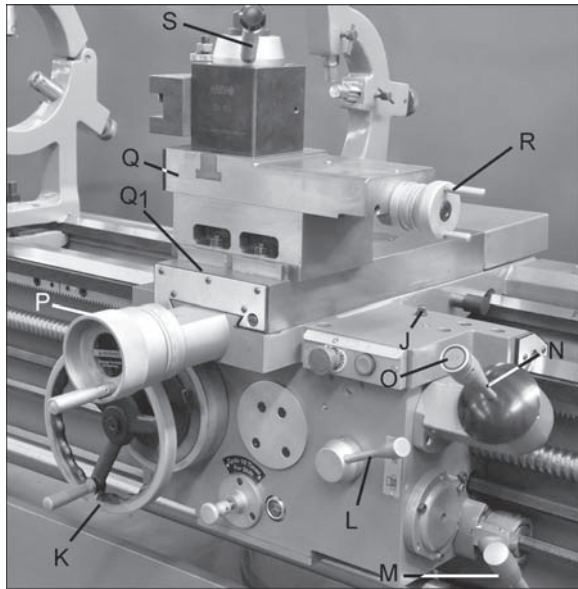

Figure 24 – Carriage controls and settings
5. **Carriage Lock** (J, Figure 24): Located on top right of carriage. Turn clockwise to lock, counterclockwise to unlock.
6. **Carriage Handwheel** (K, Figure 24): Located on the apron. Rotate handwheel clockwise to move carriage assembly toward tailstock (right). Rotate the wheel counterclockwise to move carriage assembly toward headstock (left). A scale is mounted to the ring, graduated in 0.05 inch increments, and can be calibrated by loosening the thumb screw lock and rotating the ring as needed. Always re-tighten ring before using the feed.
7. **Half Nut Lever** (L, Figure 24): Located on front of apron assembly. Engages the leadscrew for threading operations.
9. **Spindle Direction Control Lever** (M, Figure 24). Move lever to the right so that its tab clears the notch, then down for forward spindle rotation, or up for reverse spindle rotation. Allow spindle to come to a stop before changing directions.
10. **Feed Direction Lever** (N, Figure 24): Left and right moves the carriage in the corresponding directions (longitudinal feed); up and down moves the cross slide (cross feed).
11. **Rapid Traverse Button** (O, Figure 24). Push for rapid movement in the direction set by the feed direction lever. Rapid longitudinal movement disengages the carriage handwheel. **However, the cross slide handwheel should be disengaged (pull it out) before using rapid feed.**
12. **Cross Slide Handwheel** (P, Figure 24): Located above apron assembly. Clockwise rotation moves cross slide toward rear of machine. The accompanying scale is graduated in 0.002 inch increments. Before using rapid feed, disengage this handle by pulling it outward.
13. **Compound Rest** (Q, Figure 24): Located on top of the cross slide and can be rotated 360° by loosening four nuts (two in front, two in back). There are calibrations in degrees (Q1, Figure 24) to assist in placement of the compound rest to the desired angle.
14. **Compound Rest Handle** (R, Figure 24): Rotate clockwise or counterclockwise to position. The accompanying scale on the collar is graduated in 0.001 inch increments.
15. **Tool Post Clamping Lever** (S, Figure 24): Rotate counterclockwise to loosen and clockwise to tighten. Always use minimum of two clamping screws to secure a cutting tool.